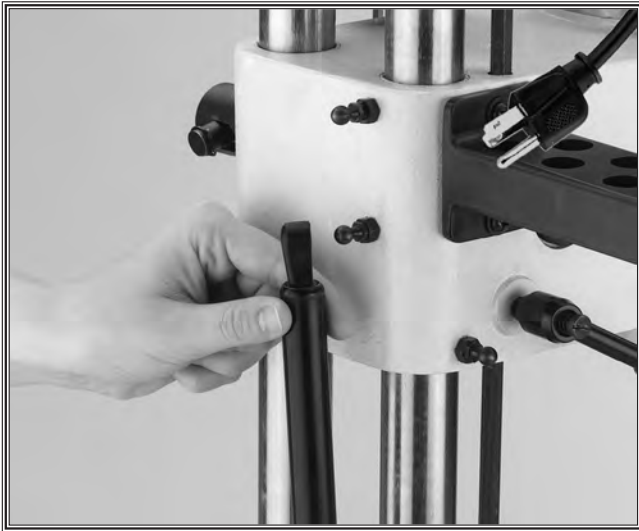

Figure 23. Snapping gas spring into place.
3. Snap the gas spring into place over the desired ball-end junction locations. See **Figure 23**. It may be necessary to compress gas spring slightly or to further lift or lower the head using the handle to align the sockets in the gas springs with the ball-end junctions.